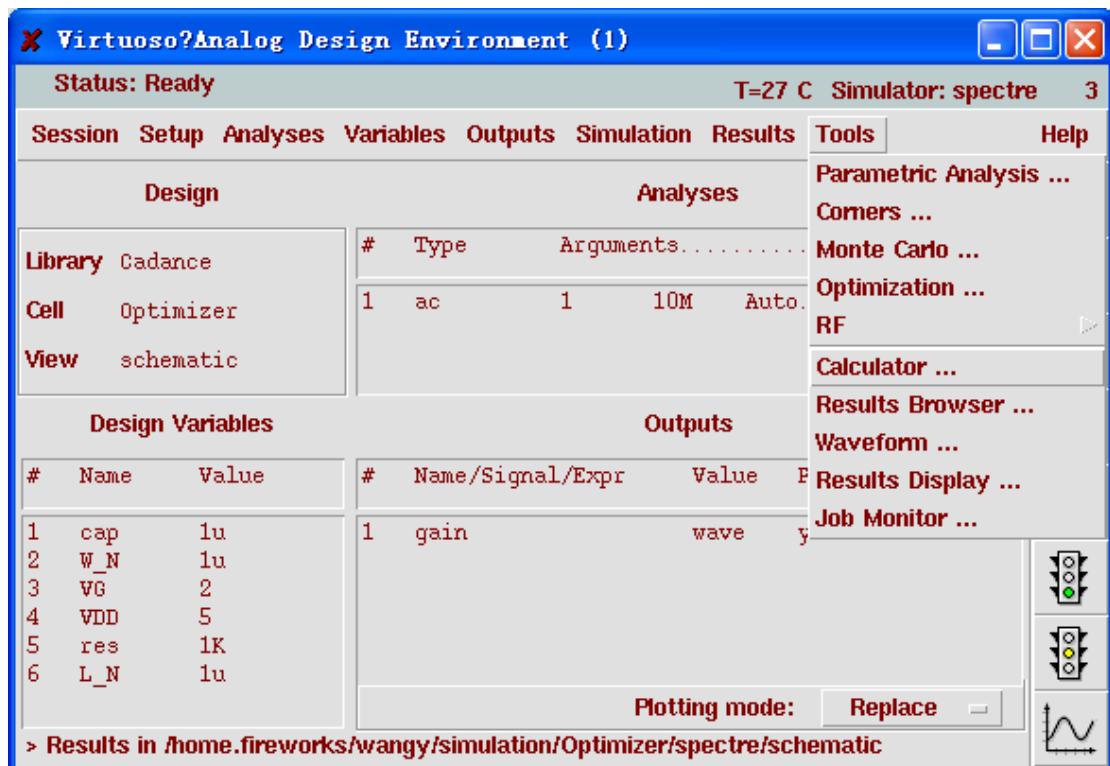

图 8.6 从 “Analog Design Environment” → “Tools” 开启 “Calculator”
- 在 “Analog Design Environment” 窗口中选择 “Tools” → “Calculator”，如图 8.6 所示